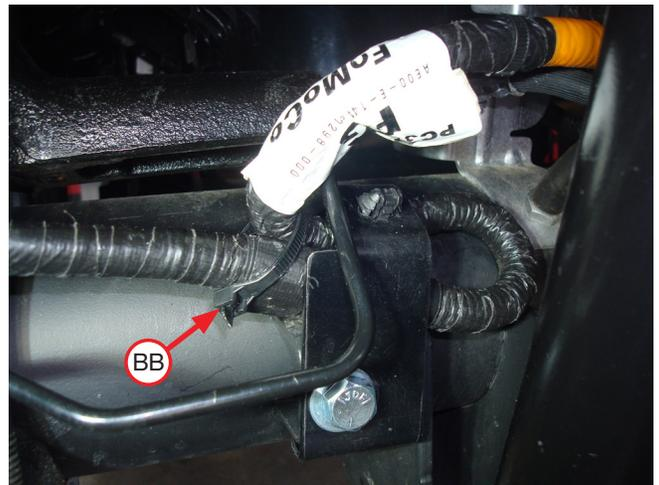

Fig. 12
- Finish the re-location of the left side ABS wiring by installing a zip tie (BB) around the harness, as shown (Fig. 12).